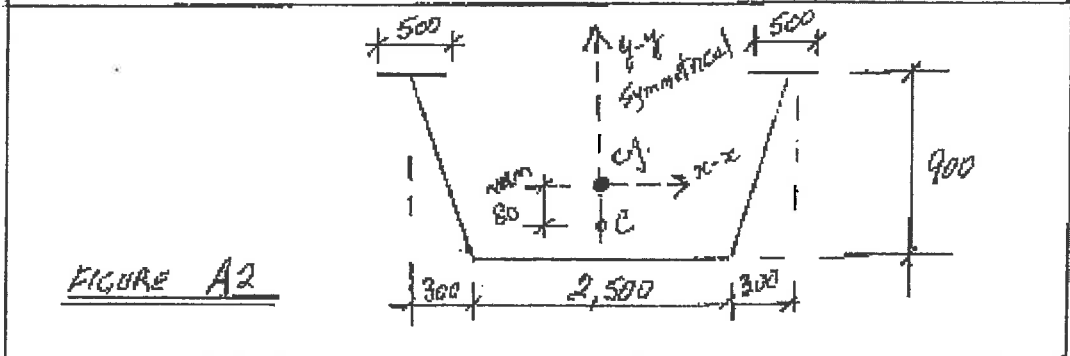

FIGURE A2
- A2. A pedestrian bridge cross-section built-up from 20 mm G40.21-350W steel plates is shown in Fig. A2. Determine the moments of resistance of the cross-section about the centroidal axes x-x and y-y.
- A3. The ends of a 18-m long pedestrian bridge, whose steel-section is shown in Fig. A2 are subjected to a horizontal compressive force,  $P_f$ . The force is applied at C, a distance of 80 mm below the c.g. and along the y-y axis. The ends of the bridge can be assumed to be hinged. Calculate the maximum factored load,  $P_f$  that the bridge can sustain horizontally.